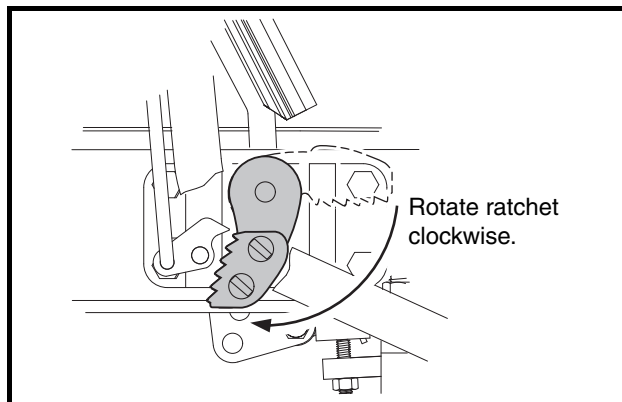

Figure 5-7 Ratchet Installation
8. Press the brake pedal slightly, and with the park brake ratchet oriented so that the tip of the ratchet is pointed toward the rear of vehicle, slide the ratchet onto the pivot rod (do not slide the ratchet onto the pivot rod splines). Release the brake pedal and allow the ratchet to rotate until its tip is pointed downward (**Figure 5-7, Page 5-8**). The ratchet should now rotate freely on the rod.
8. Press the brake pedal slightly, and with the park brake ratchet oriented so that the tip of the ratchet is pointed toward the rear of the vehicle, slide the ratchet onto the pivot rod (do not slide the ratchet onto the pivot rod splines). Release the brake pedal and allow the ratchet to rotate until its tip is pointed downward (**Figure 5-7, Page 5-8**). The ratchet should now rotate freely on the rod.